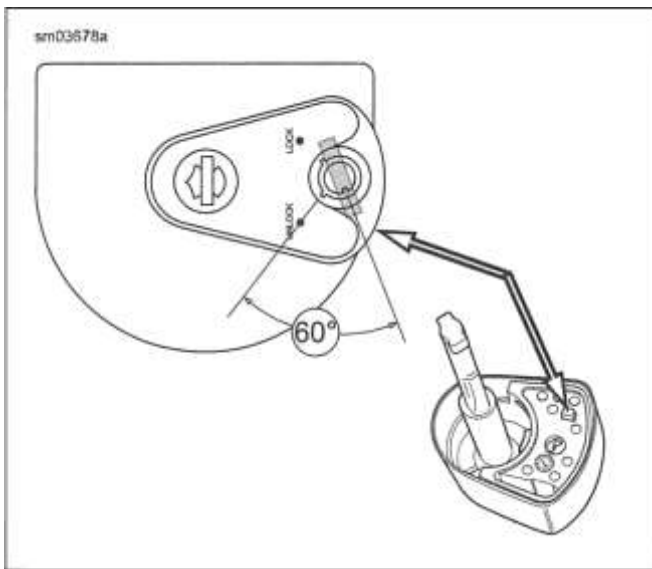

Figure 8-10. Ignition Switch Knob Release Button (Top and Bottom Views)
See Figure 8-10. Remove the ignition switch knob.
- a. See Figure 8-10. Verify that button at bottom of knob is pressed and key is turned 60° counterclockwise of the UNLOCK position.